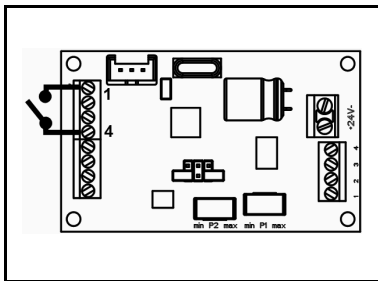

Fig. 12: Start signal
- Connect the start signal to COM4 (cf. Fig. 12).
- Connect the start signal to COM4 (cf. Fig. 12)
→ Connect the start signal to COM4 (cf. Fig. 12).